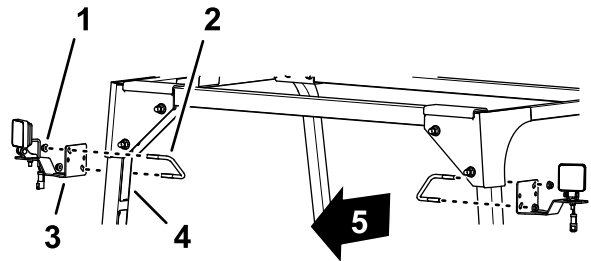

Figure 7
1. Assemble the LED light and bracket to the rear ROPS tube with the U-bolt (3/8 x 3-1/2 x 2-13/16 inches) and flange locknut (3/8 inch) as shown in Figure 7.